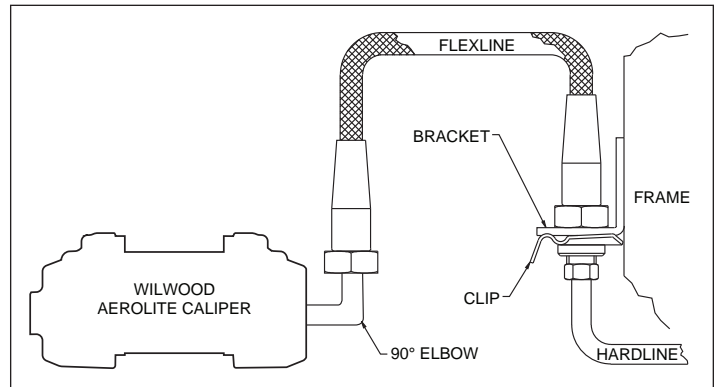

Figure 4. Brake Line Diagram
- **NOTE:** The caliper in this brake kit utilizes a 1/8-27 NPT pipe thread inlet. OEM rubber brake hoses generally cannot be adapted to Wilwood calipers. Install Wilwood's stainless steel braided flexline hose kit, part number 220-8173 for C5, 220-9101 for C6 (both sold separately), as shown in Figure 4. **NOTE:** The specified Wilwood hose kits may not work on all Years, Makes, or Models of the vehicle that this brake kit is applicable to, due to possible OEM manufacturing changes during the vehicle's production life. **Carefully route hoses to prevent contact with moving suspension, brake, and wheel components.** It is the installer's responsibility to ensure that all fittings and hoses are the correct size and length, that they are properly sealed, and that they will not be subjected to crimping, strain, or abrasion from vibration or interference with suspension, brake, or wheel components.